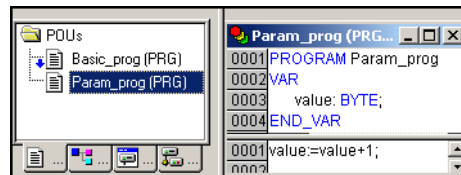

Figure 33: Programmed element for event controlled task
- ▶ You can now enter a program. The program example Param\_prog (Figure 33) increments the variable “value” by the value 1. The Param\_prog is processed if the variable a = TRUE.